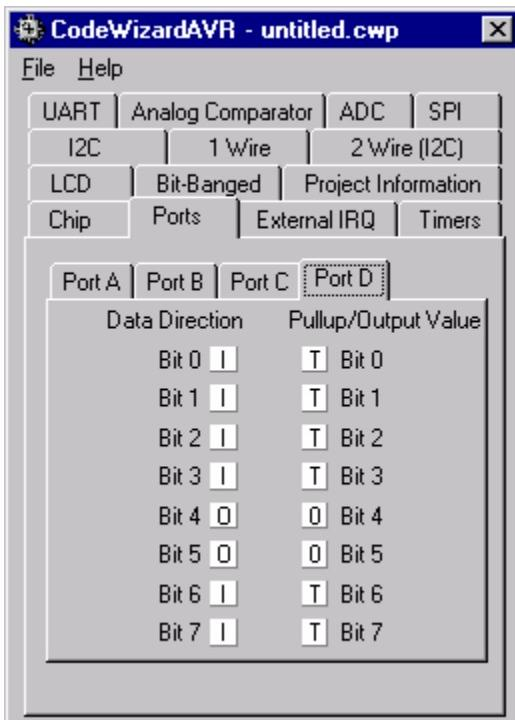

Figure 2: Port D Configuration
4) Set Data Direction Bits 4 and 5 of PORTD to Output as shown in Figure 2